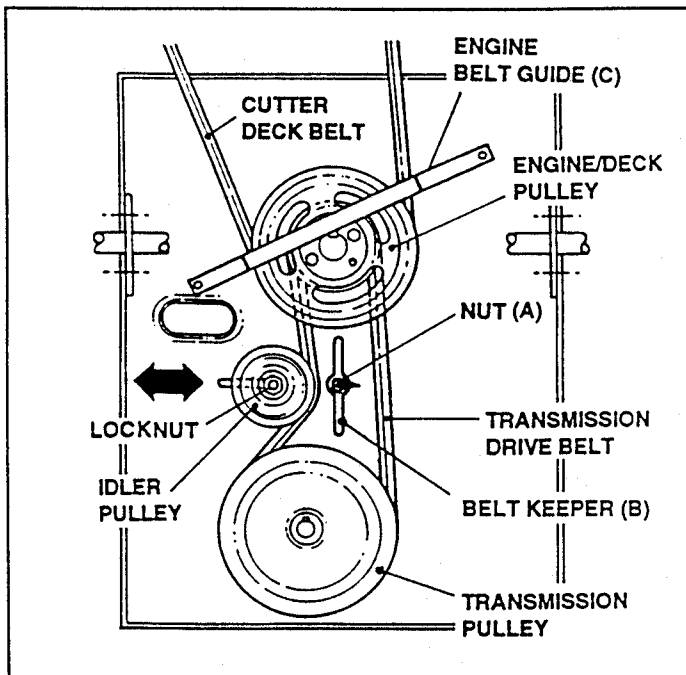

FIGURE 50
3. Loosen Nut (A) retaining Belt Keeper (B) at rear of Engine/Deck Pulley and remove Cutter Deck Belt from Engine/Deck Pulley. See Figure 50.
1. STOP ENGINE! From front of Cutter Deck, slide Cutter Deck Belt thru Engine Belt Guide (C) toward Engine/Deck Pulley. Place Cutter Deck Belt around Engine/Deck Pulley. See Figure 50.
1. STOP ENGINE! From front of Cutter Deck, slide Cutter Deck Belt thru Engine Belt Guide (C) toward Engine/Deck Pulley, and place Cutter Deck Belt around Engine/Deck Pulley. See Figure 50.